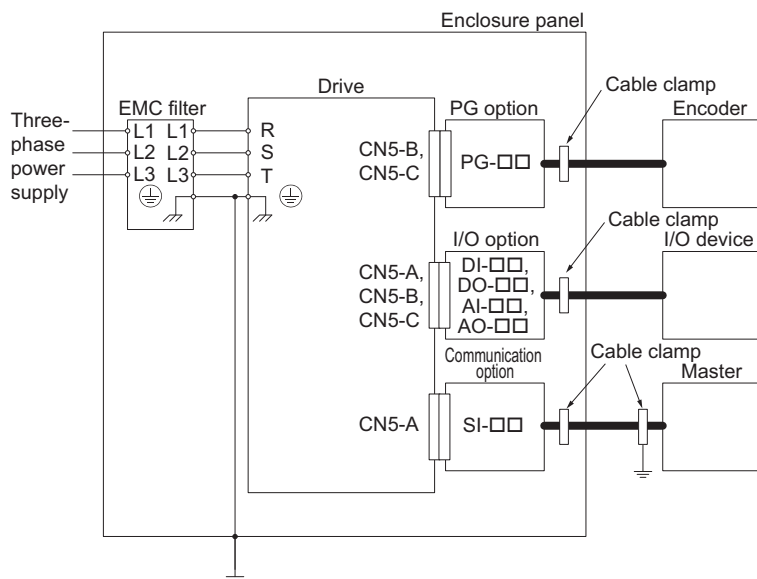

Figure 28 Option Installation (PG-□□, DI-□□, DO-□□, AI-□□, AO-□□, SI□□)
2. Keep wiring as short as possible and ground the largest possible surface area of the shield to the metal panel according to Figure 28.